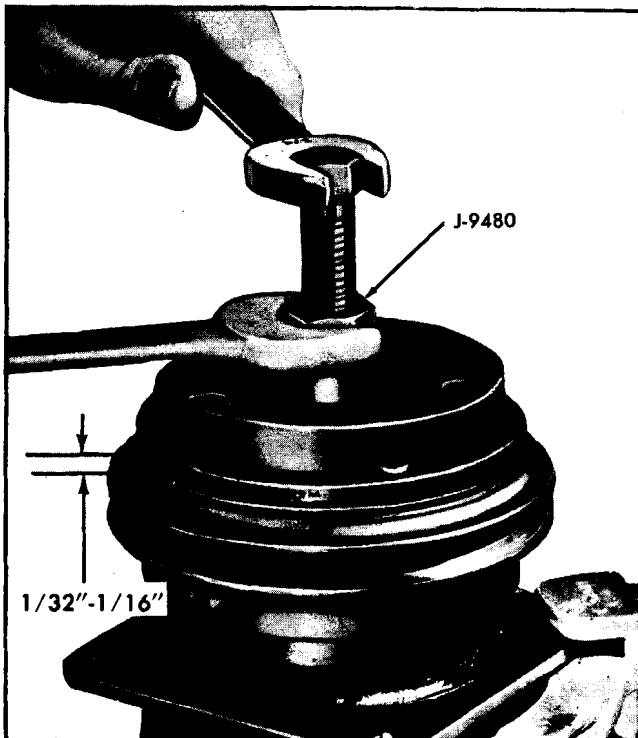

Fig. 1A-8 Installing Hub and Drive Plate Assembly
1. When replacing a new ball bearing assembly into pulley, use J 9481 pulley bearing installer (Fig. 1A-11).
3. Press or tap pulley and bearing assembly on the neck of the compressor, using J 9481 (Fig. 1A-12).